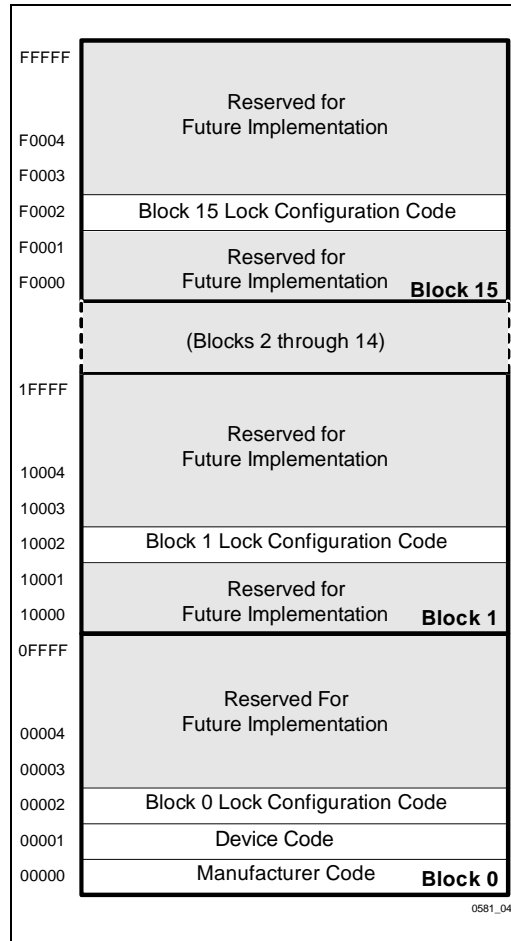

Figure 3. Device Identifier Code Memory Map
The read identifier codes operation outputs the manufacturer code, device code, and block lock configuration codes (for each block), see Figure 3. Using the manufacturer and device codes, the system CPU can automatically match the device with its proper algorithms. The block lock codes identify locked and unlocked blocks.
IA = Identifier Code Address: see Figure 3.
The host initiates the identifier code operation by writing the Read Identifier Codes command. Following the command write, read cycles from addresses shown in Figure 3 retrieve the manufacturer, device and block lock configuration codes (see Table 7 for identifier code data). To terminate the operation, write another valid command. Although Table 7 lists the device code as A6A6, this family of products could also have device codes A7A7 or AAAA. Host software should check for all three cases for compatibility with future cards.
1. X selects the specific block lock configuration code to be read. See Figure 3 for the device identifier code memory map.